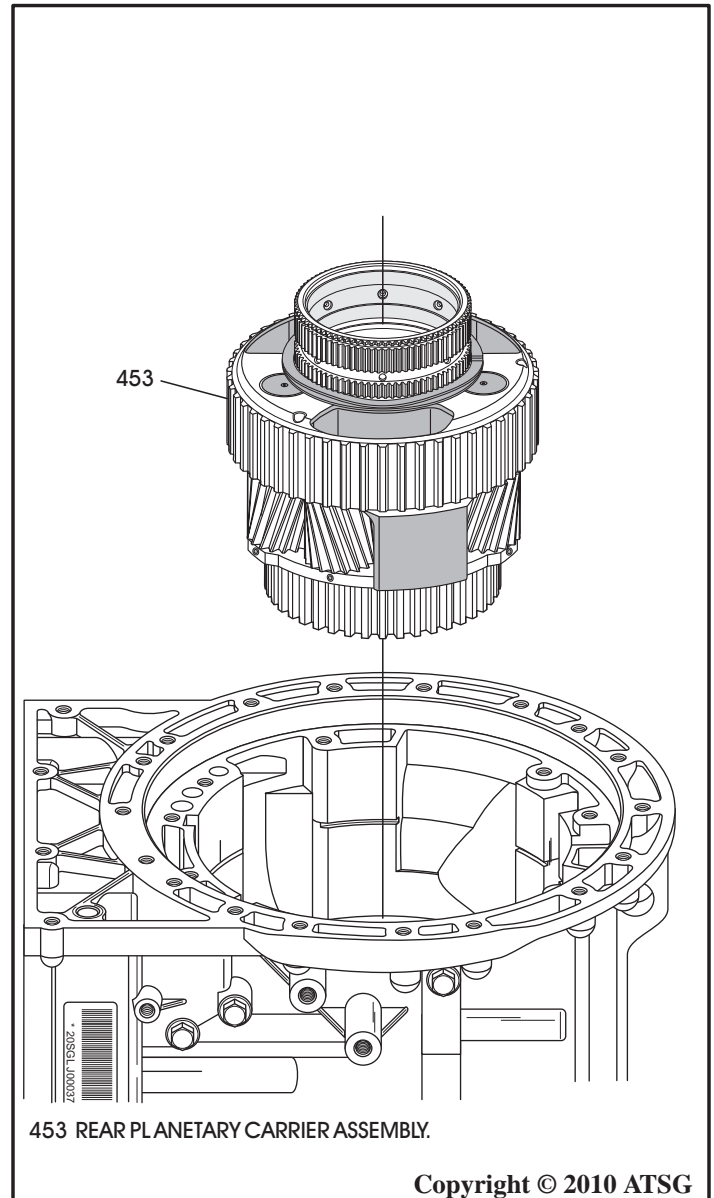

Figure 66
60. Remove the rear planetary carrier assembly, as shown in Figure 66.